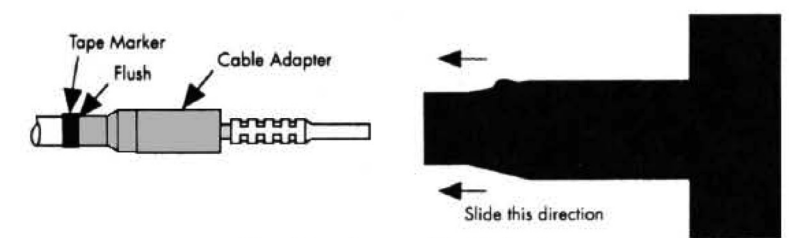

Fig.10- Assemble T-Body
B. Slide the T-Body housing onto the cable assembly, making sure the crimp connector is properly aligned with the T-body. The housing should bottom out onto the connector. Verify that the cable adapter did not move and is still flush with the tape marker. If the adapter moves, reposition it until it is again flush with the tape marker. (See Figure 10.)